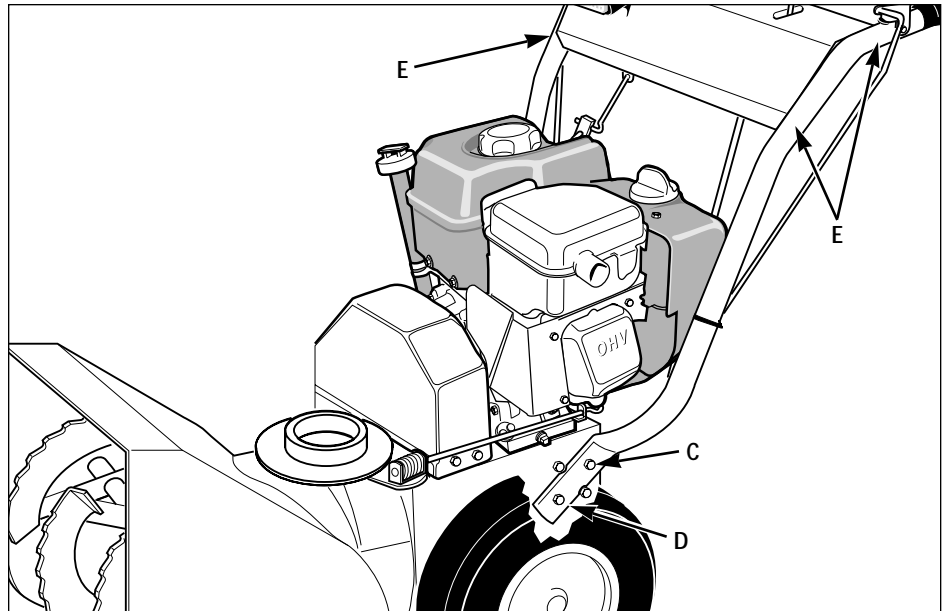

Figure 2-3
- a. Install a screw in the upper mounting hole (C, Figure 2-3) on each side. Leave screws loose enough to allow handlebar to pivot.
- b. Install a screw (D) in the lower mounting hole on each side.
2. There are four pre-installed screws (E, Figure 2-3) on the inside of the handlebars that secure the control panel. Tighten each screw securely.